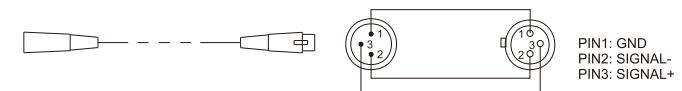

Fig4
(5) Signal cable and connector (See Fig.4):